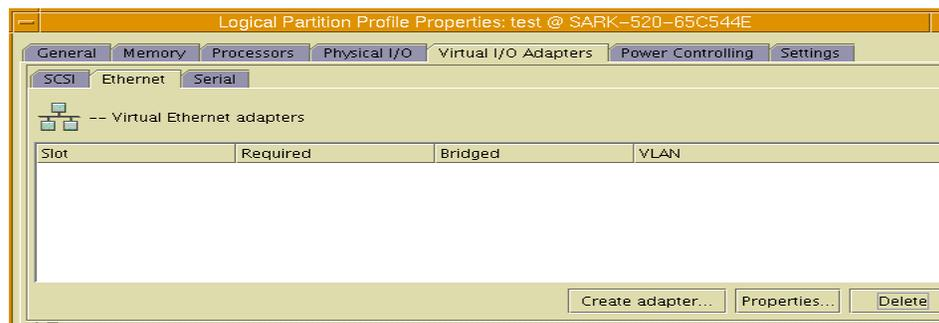

Figure 4-23 Create Virtual Ethernet on VIO server
- Next, create the Virtual Ethernet on the VIO server. Click on the “Ethernet Tab” on the Top Left and then click on “Create Adapter” icon as shown in Figure 4-23.